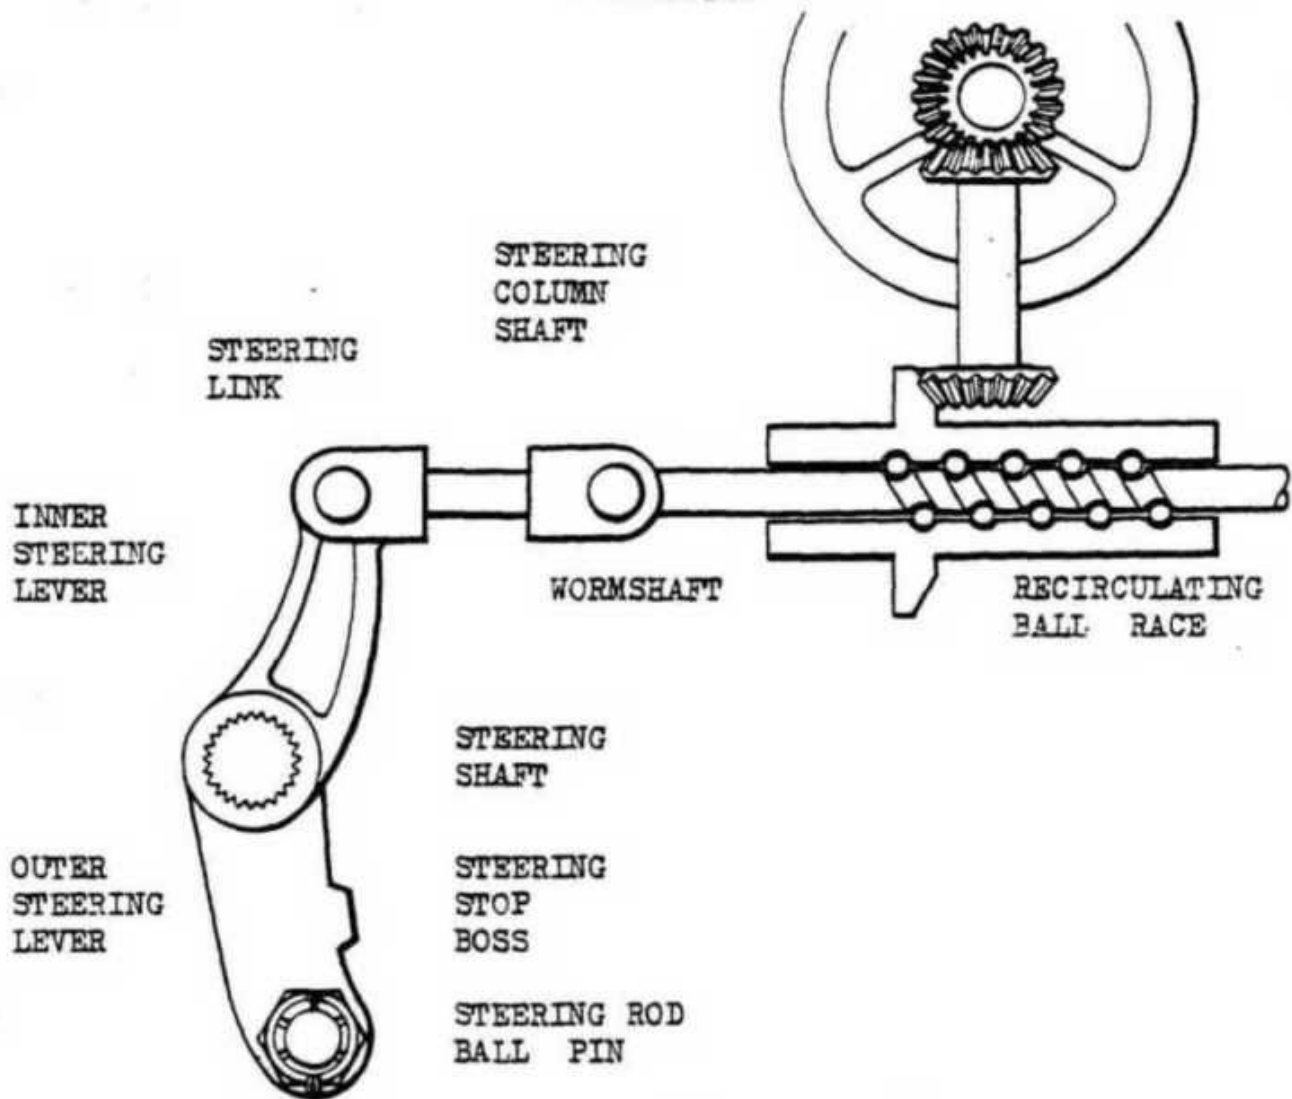

Fig 9.1 STEERING LAYOUT (FRONT VIEW)
9.1 Layout. (Fig 9.1) The steering gear assembly is bolted to inside of the hull front. The steering wheel shaft has a bevel pinion in mesh with a bevel on the steering column shaft in the upper steering box. The bevel on the lower end of the column shaft rotates a recirculating ball race sleeve. Within the sleeve is a cross shaft with a link attached to each end. Each link is attached to an inner steering lever which is splined onto its steering lever shaft, mounted in the steering lever case which is bolted on the outside of the hull. On the front end of the shaft, protruding from the lever case, is the outer steering lever (sometimes called the drop arm). Inner lever, shaft and outer lever are marked for correct assembly. A steering rod ball pin fits through a hole in the lower end of the outer lever and its other end ball pin fits in the steering arm on the hub.